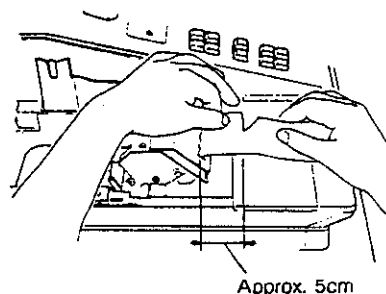

Fig. 6
7. When the whole folded portion has come out, tear off the unnecessary part with an appropriate end length remaining (approx. 5 cm or 2 inches). (Fig. 6)